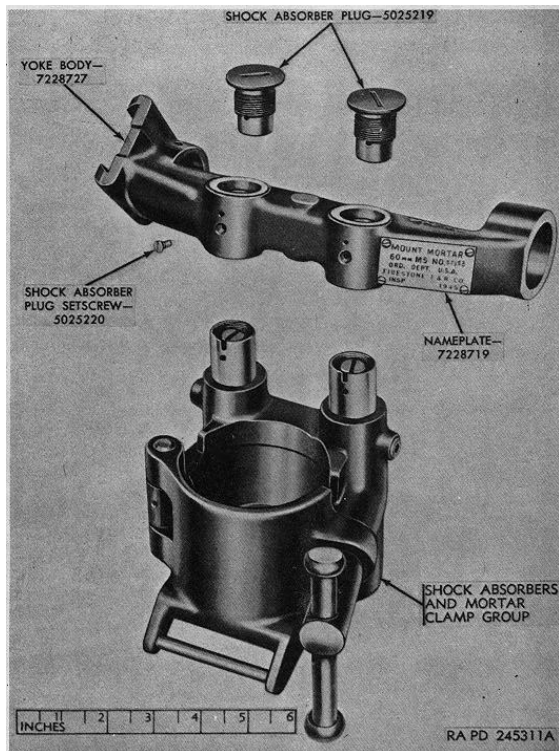
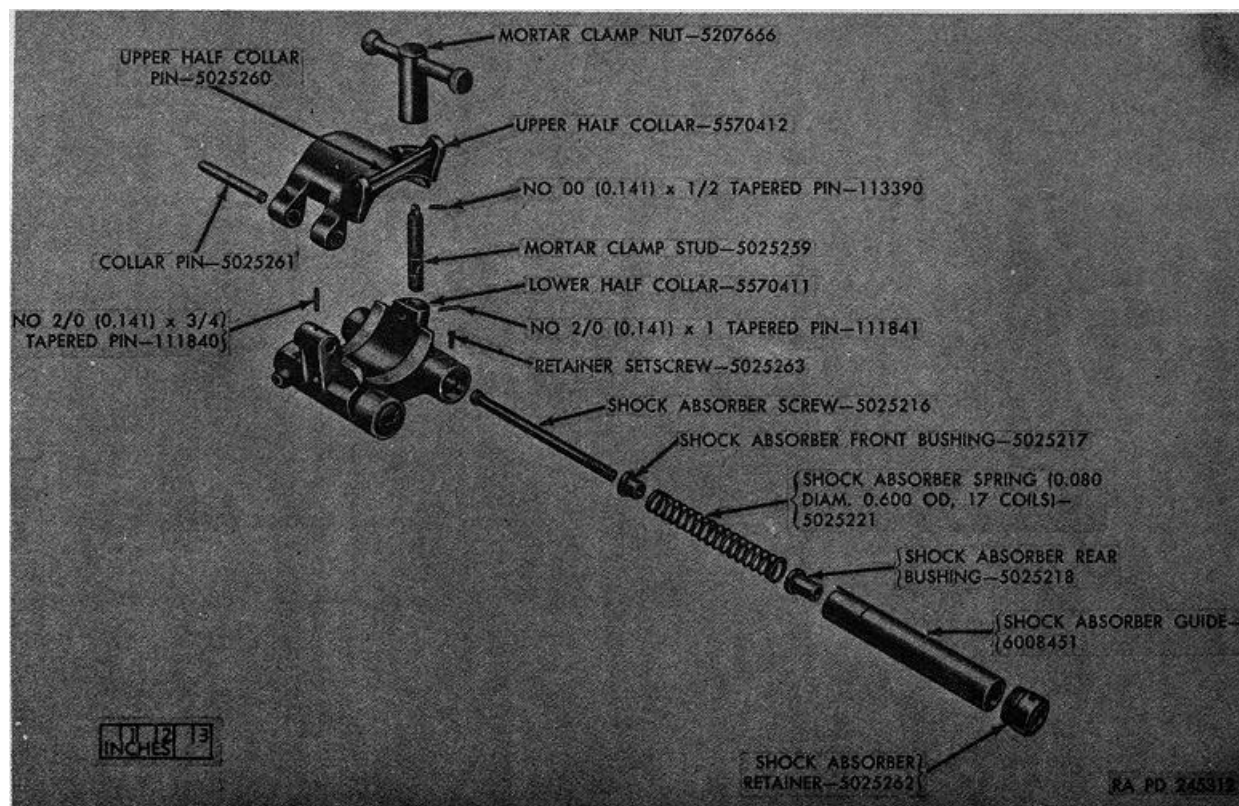

Figure 26. Shock absorbers, mortar clamp, and yoke assembly group—partial exploded view.
Figure 27. Shock absorber and mortar clamp group--exploded view.
a. Remove shock absorber plug setscrews and back out shock absorber plugs (fig. 26); mark plugs and guides to facilitate assembly.
b. Withdraw shock absorbers and mortar clamp group from yoke body (fig. 26).
c. Remove retainer setscrews (fig. 27) and back out shock absorbers. Disassemble shock absorbers by removing shock absorber screws, front bushings, springs, rear bushings, and guides (fig. 27). Unscrew shock absorber retainers (fig. 27) (mark to facilitate assembly).
d. To disassemble the clamp assembly, proceed as outlined in (1) through (3) below.
(1) Rotate mortar clamp nut until the hole in the nut aligns with the tapered pin in the clamp stud; then drive out the tapered pin and unscrew mortar clamp nut from the clamp stud (fig. 27).
(2) Drive out tapered pin which secures collar pin to lower half collar; then drive out collar pin (fig. 27) to separate upper and lower half collars.
(3) Drive out tapered pin from lower half collar and unscrew clamp stud (fig. 27).
- a. Insert shock absorber rear bushing into shock absorber guide (small end leading) and then follow with shock absorber spring, shock absorber front bushing (small end leading), and shock absorber screw (fig. 27).
- b. Slip the shock absorber guides into the pockets of the lower half collar so that slot in each guide aligns with a pin located in the yoke body; slip the yoke down over the guides and align screw holes in yoke body with screw holes in guides (fig. 27).
- c. Screw each shock absorber retainer (fig. 27). into its pocket in the lower half collar until screw holes align. Screw in the retainer setscrews (fig. 27) part way.
- d. Turn the shock absorber screw into each shock absorber retainer until the screw holes of the screw align with holes in the shock absorber retainer (fig. 27) and lower half collar. Screw in the retainer setscrews completely.
- e. Screw the shock absorber plugs into their proper pockets of the yoke body as marked until the holes in the plugs align with the holes in the shock absorber guides and yoke body (fig. 26). Screw in the shock absorber plug setscrews (fig. 26).
- f. To assemble the mortar clamp assembly, proceed as outlined in (1) through (3) below.
- (1) Screw mortar clamp stud tight into lower half collar and drive in No. 2/0 (0. 141) x 1 tapered pin (fig. 27).
- (2) Hold the upper half collar so that slotted hole of collar is over the mortar clamp stud, and mesh the hinge of the upper and lower half collars (fig. 27). Drive in collar pin until holes align and drive in No. 2/0 (0. 141) x 3/4 tapered pin (fig. 27).
- (3) Screw mortar clamp nut on mortar clamp stud until holes align and then drive in No. 00 (0. 141) x 1/2 tapered pin (fig. 27).